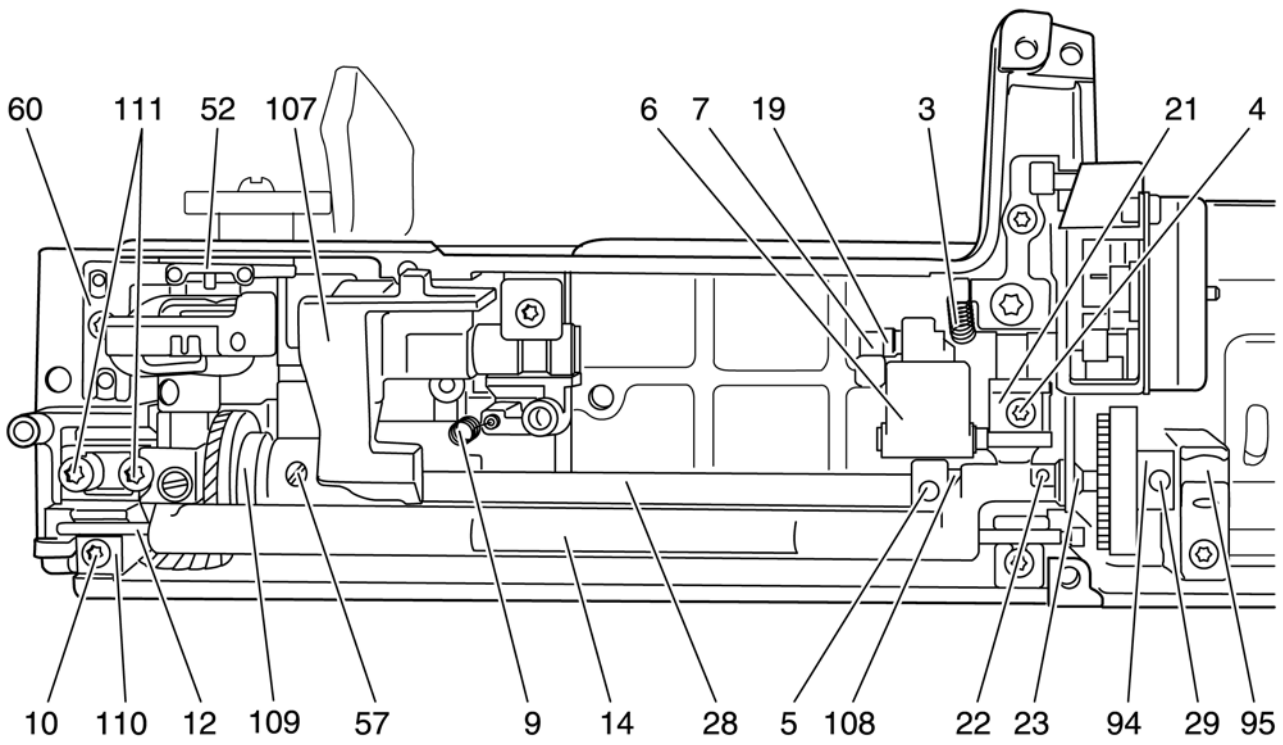

Fig. 83
- Fasten the sewing hook bearing using both screws 111 (fig. 83).